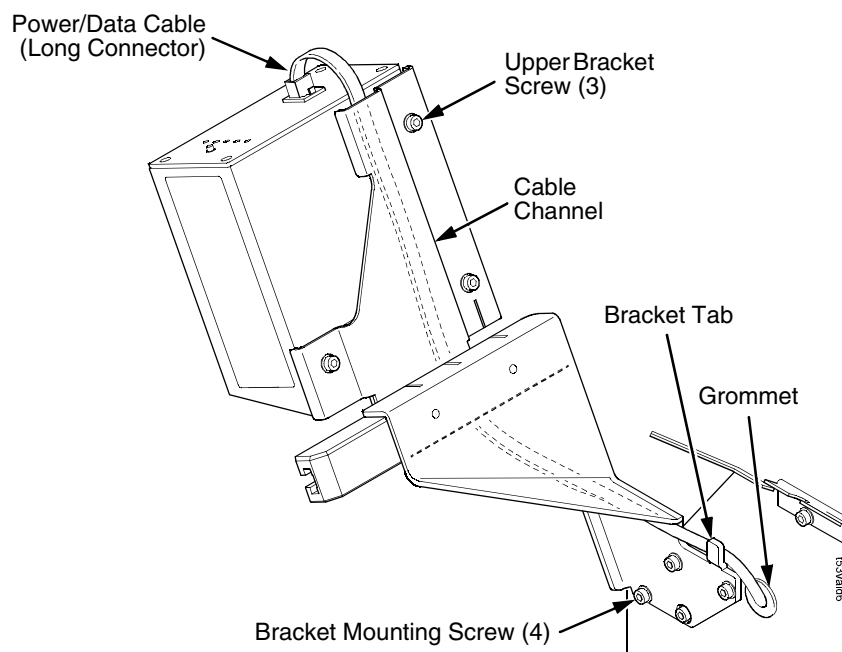

Figure 11. Attaching the Power/Data Cable
1. Loosen the three upper bracket screws and route the power/data cable through the cable channel in the upper bracket, as shown in Figure 11.
3. Route the power/data cable behind the bracket tab, as shown in Figure 11.